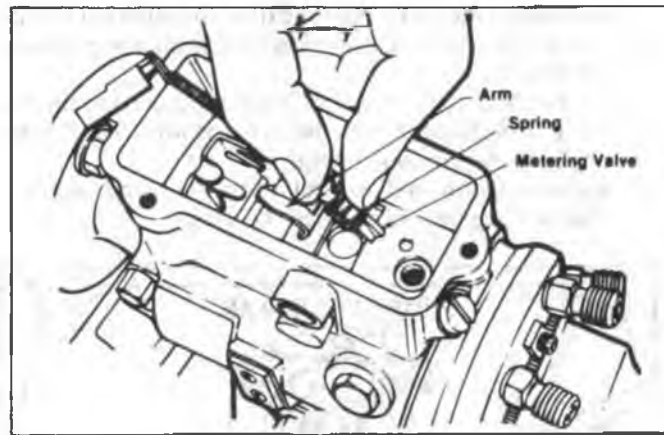

Fig. 2-27 Metering Valve
13. Install metering valve (Fig. 2-27).